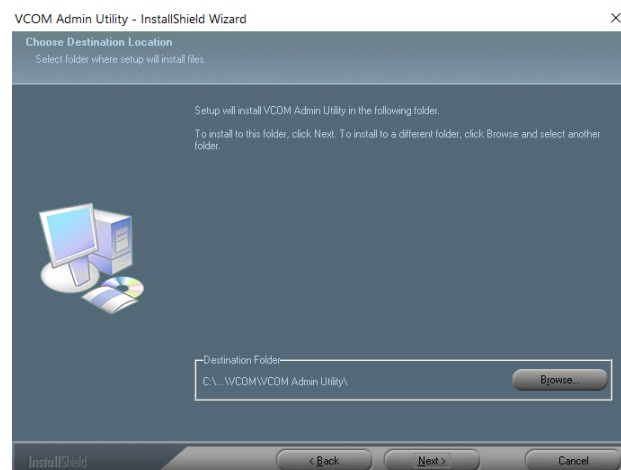

Figure 5-1-2 : Installing location
2. Click Next to accept suggested installation path, or click browse to select a different location as shown in Figure 5-1-2.